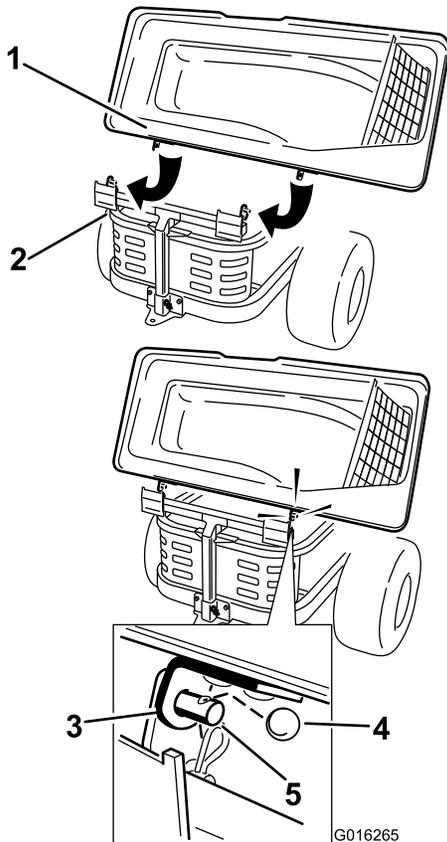

Figure 20
2. Slide the brackets over the posts in the bagger frame and install the circular cotter pin into the hole in the right hand post (Figure 20).